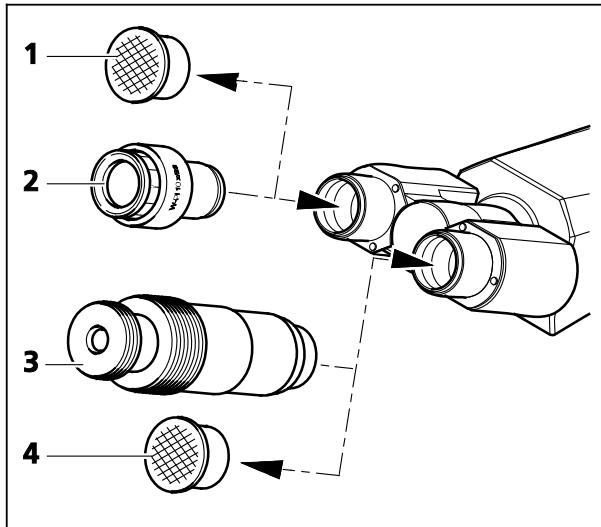

Figure 3-4 Inserting eyepieces
- Remove both dust caps (Figure 3-4/1 and 4) from the binocular tube.
- Take both eyepieces (Figure 3-4/2) out of their containers, and insert them into the binocular tube until they reach the stop.
- The auxiliary microscope (Figure 3-4/3) may be inserted into one of the binocular sockets instead of an eyepiece, and it is used for observing aperture stops, phase stops and dark-field stops, or for centering phase stops and dark-field stops. The adjustable eyepiece lens may be used for focusing these stops, and the setting may be defined by tightening a clamping screw.